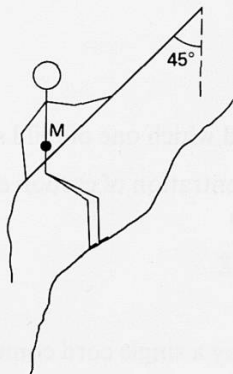

Figure A107
- If the rock is wet and there is virtually no friction between his soles and the rock, explain how he can stay in the position shown in figure A107.